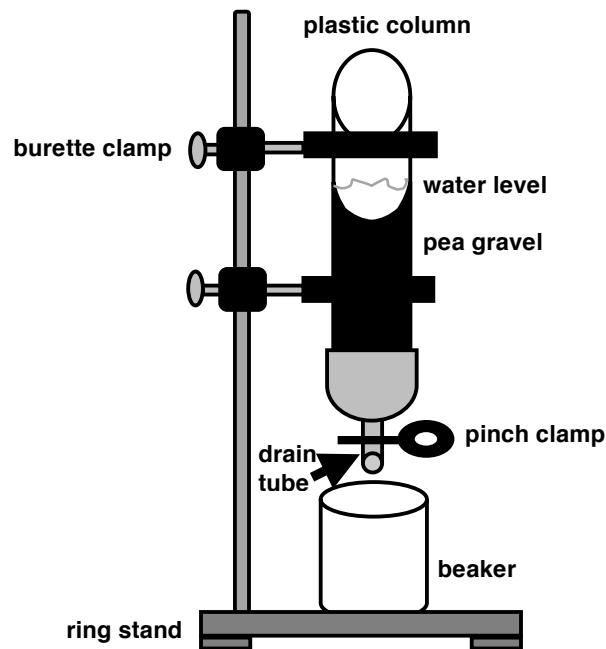

Figure 1
- B. Place the plastic column in the burette clamps, and tighten the clamps. Be sure the tube-end of the plastic column is down. Also, be sure the drain tube is clamped closed (using the pinch-clamp). The bottom of the plastic column should be high enough above the base of the ring stand that you can easily move the 500 mL beaker beneath it (to catch water coming out of the plastic column). See Figure 1 on the next page.